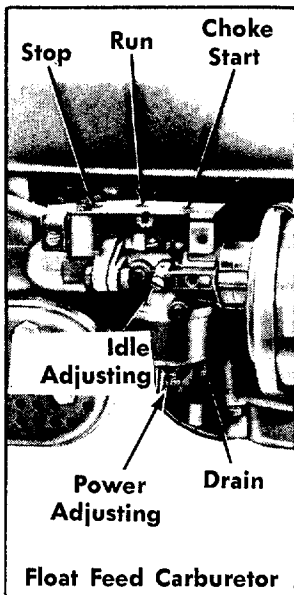
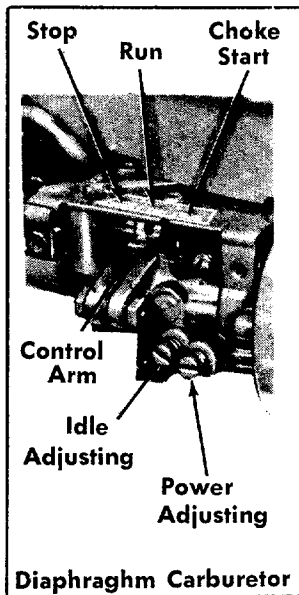

FIGURE 41.
FIGURE 42.
1. Close power adjusting needle (figure 41 or figure 42) by turning to right (clockwise). Close finger tight only. Forcing will cause damage.
3. Close idle adjusting needle (figure 41 or figure 42), by turning to right (clockwise). Close finger tight only. Forcing will cause damage.
4. Open one and one-half turns ( $1\frac{1}{2}$ ) counterclockwise (figure 41 or figure 42).
8. Allow several seconds between each adjustment when performing either step six (6) or seven (7) to allow engine to react to new setting.